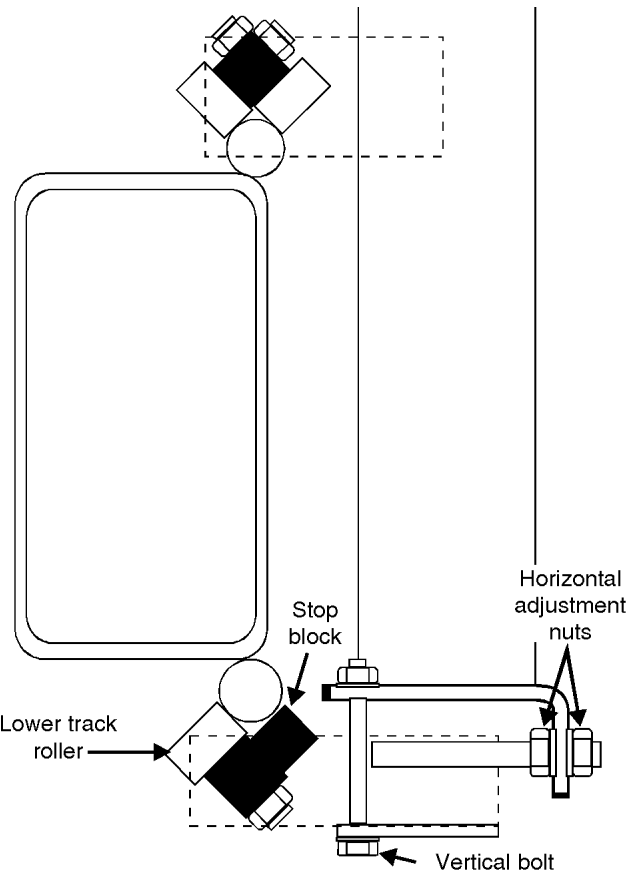

FIG. 5-4
- Move the saw carriage so the blade is over the rear main bed rail. **See Figure 5-4.**